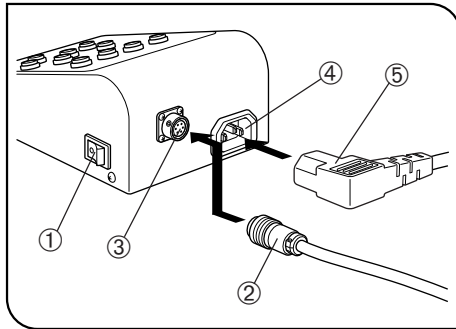

Fig. 5
(Figs. 5 & 6)
- ▲ Make sure that the main switch ① of the SZX2-RHS is set to “○” (OFF) before connecting the power cord.
1. Insert the cable connector ② of the SZX2-ILR66 illuminator firmly into the OUTPUT connector ③ on the SZX2-RHS hand switch. (Fig. 5)
2. Insert the connector ⑤ of the power cord into the power cord connector ④ of the SZX2-RHS, and insert the power cord plug ⑥ into the power outlet ⑦.